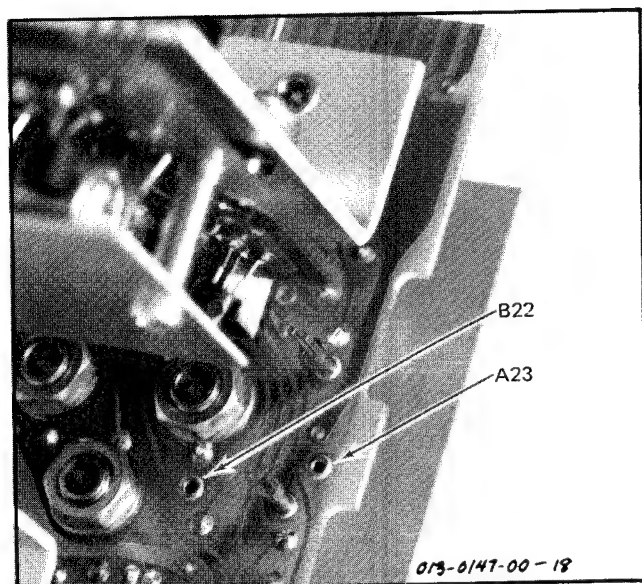

Fig. 5-2. Location of test points for terminals A23 and B22.
b. Push 577 POWER switch to Off. Connect a patch cord (40 mil pin) on the Regulator Test Unit, between terminals A23 and B22. See Fig. 5-2. Plug the Regulator Test Unit into the 178 and turn 577 POWER on.